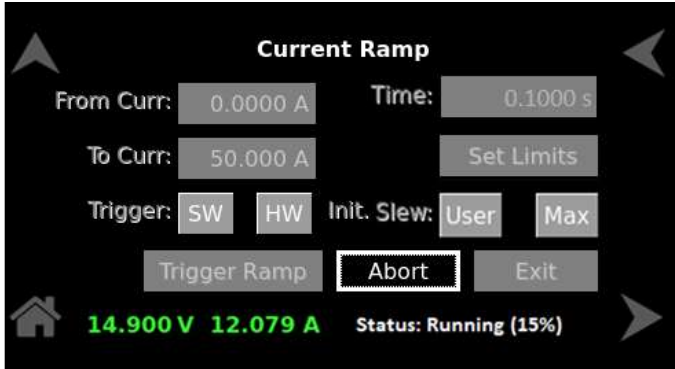

Figure 9-80. Status – Running
**d) Running:** When the system is executing the trigger ramp process, refer to Figure 9-80.